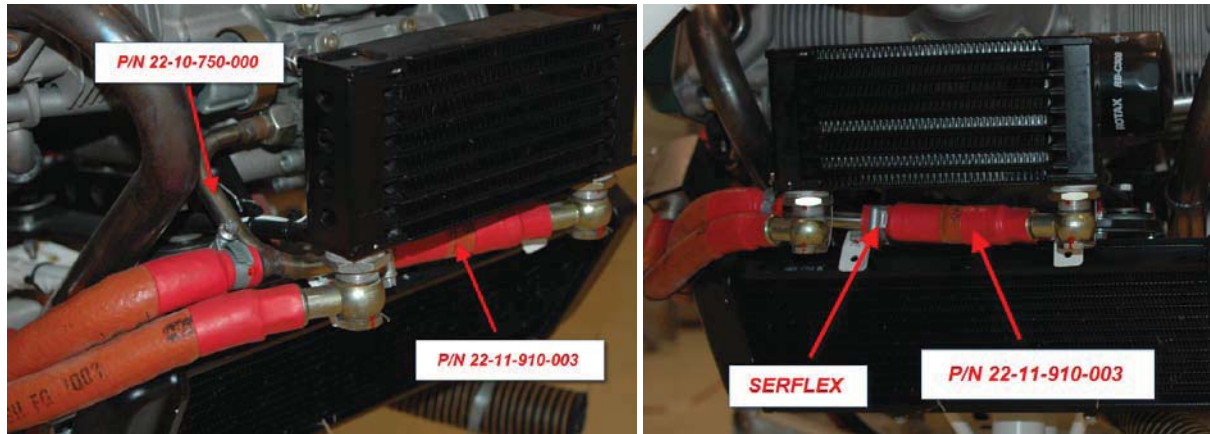

Figure 6 – P/N 22-11-910-003 and P/N 22-10-750-000 installation
- 10** Install the “metallic oil tube” (P/N 22-11-910-003) and the “Assy tube from metallic oil tube to oil radiator” (22-11-910-003) using a serflex for fitting as indicated in Figure 6.